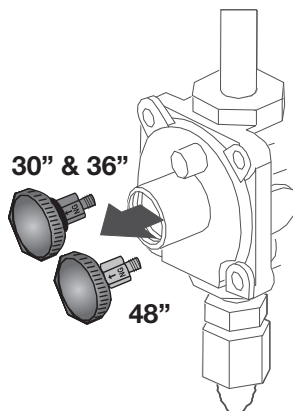

Figure 9
**3** Unscrew the regulator cap with a wrench (see Figure 9).